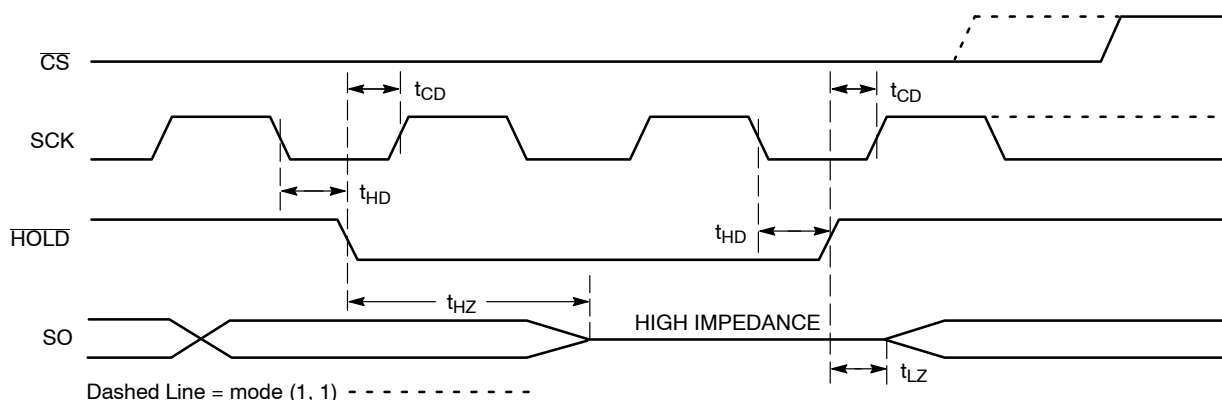

Figure 11.  $\overline{\text{HOLD}}$  Timing
The  $\overline{\text{HOLD}}$  input can be used to pause communication between host and NV25256. To pause,  $\overline{\text{HOLD}}$  must be taken low while SCK is low (Figure 11). During the hold condition the device must remain selected ( $\overline{\text{CS}}$  low). During the pause, the data output pin (SO) is tri-stated (high impedance) and SI transitions are ignored. To resume communication,  $\overline{\text{HOLD}}$  must be taken high while SCK is low.